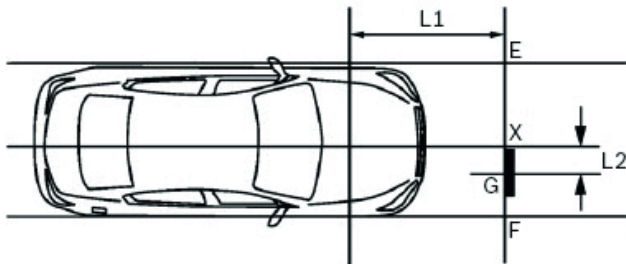

Abb. 9: Values depend on vehicle
2. Move the vertical release to the Downwards position (rotate to the left). See also fig. 9.